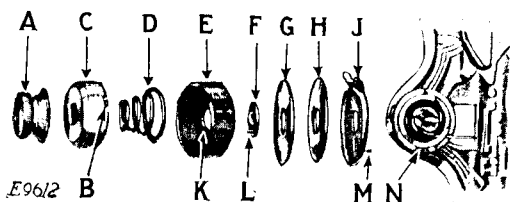

FIG. 27. THREAD TENSION PARTS REMOVED
Thread tension parts can be removed in the following order, as shown in Fig. 27: Thumb nut (A), tension indicator (C), tension spring (D), tension indicator flange (E), tension releasing disc (F), tension discs (G and H), thread take-up spring thread guard (J).